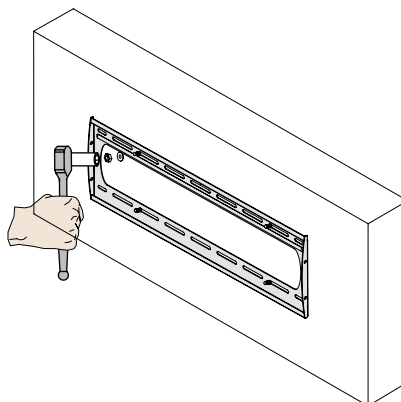

Figure 17. Attaching Nuts and Washers
10. Attach the nuts and 5/16" washers to each of the concrete wedge anchors and tighten using a socket wrench and an M10 socket (not included) (Figure 17).